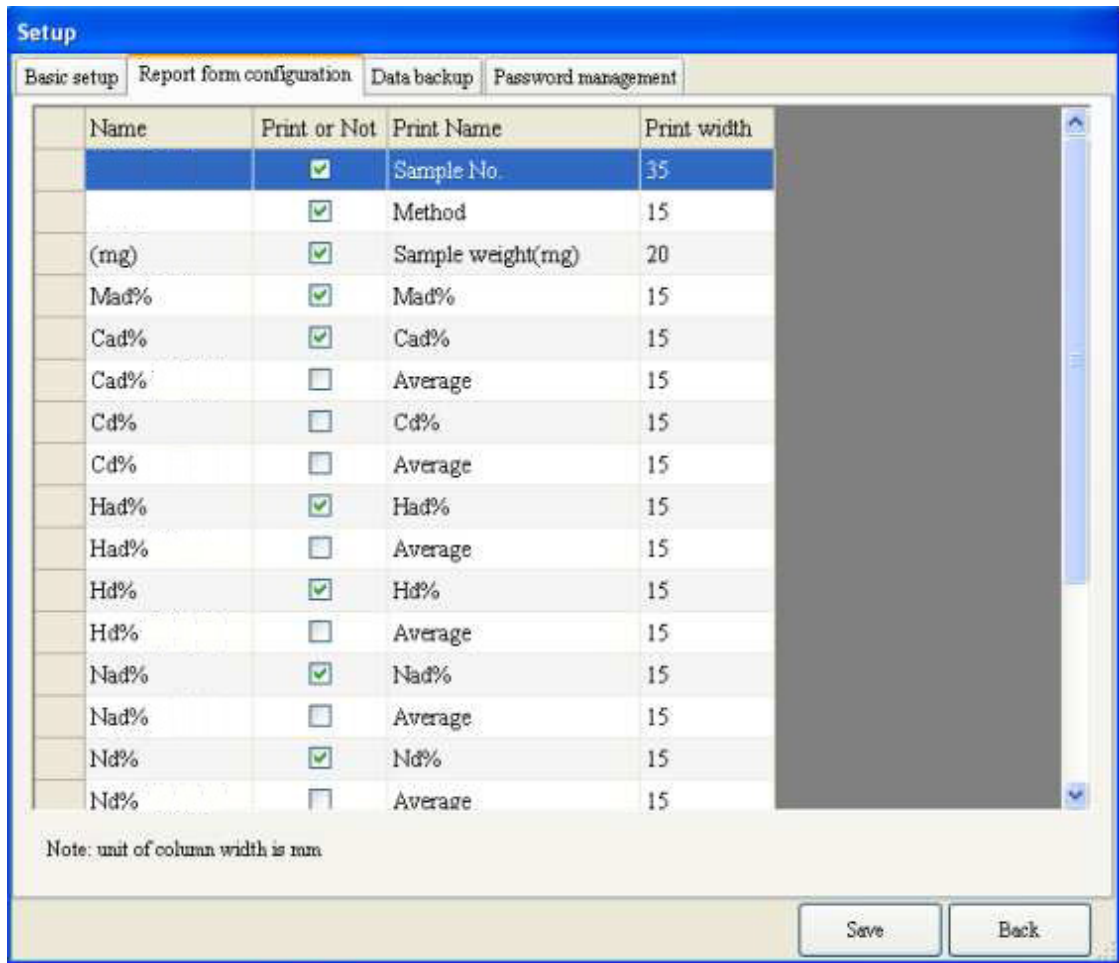

Fig. 5-1-3
1. Report table configuration: Click “Report table Configuration” on the Setting window, the window as Fig. 5-1-3 will popup.